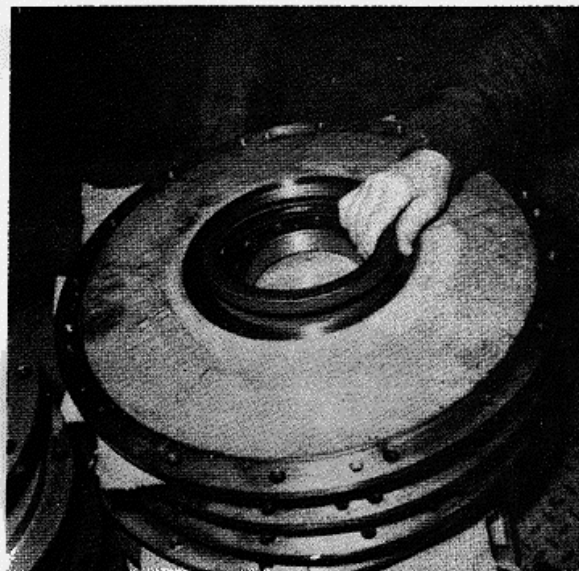

FIGURE 8-10
n. Disassembly of drive drum hub. Remove the oil seal for replacement. Check that companion flange seal surface is smooth (see figure 8-10).